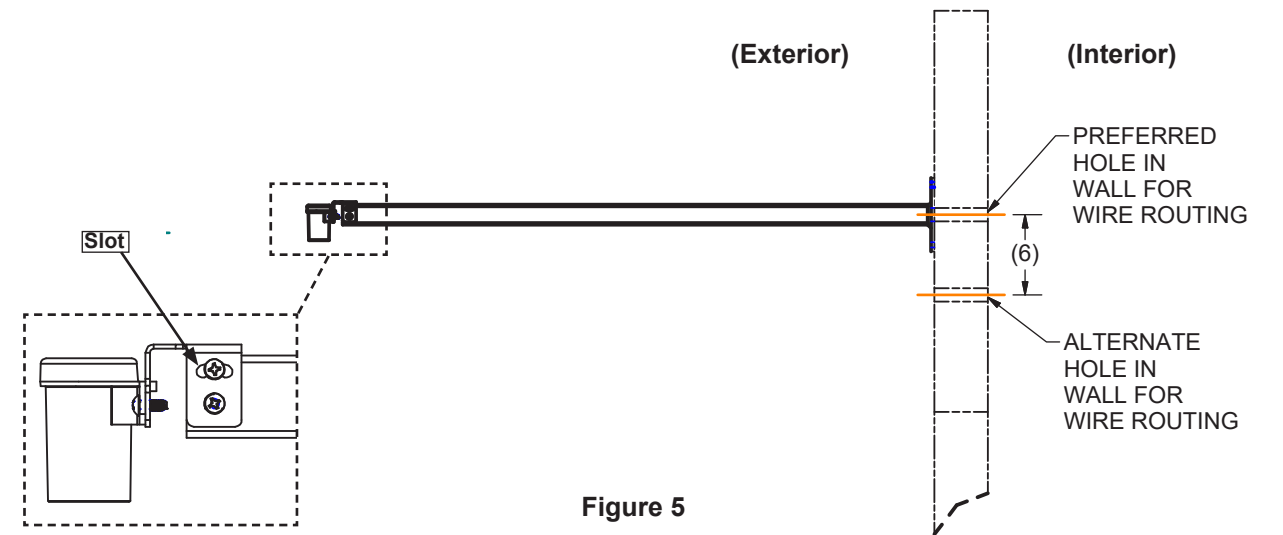

Figure 5
Note: Seal the hole between the outside mounting bracket and the inside wall. A junction box is recommended to conceal the hole where the cable enters the interior wall. See **Figure 5**.
4. If the sensor is mounted near an awning, shelter or dock seal, ensure sensor is not detecting this obstruction. If so, the sensor can be rotated away from the obstruction using the slots in the sensor mount. See **Figure 5**.